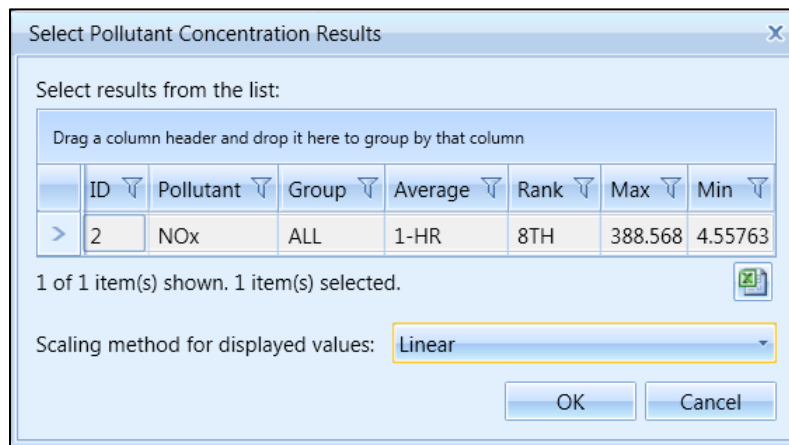

Figure 5-44 Select Pollutant Concentration Results Dialog
3. The *Select Pollutant Concentration Results* dialog (Figure 5-44) is displayed.